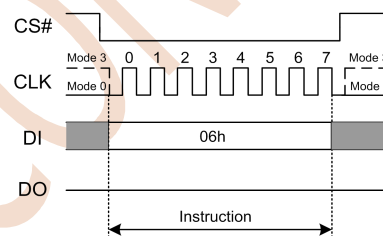

Figure 7.2 Write Enable Instruction
The Write Enable instruction (Figure 7.2) sets the Write Enable Latch (WEL) bit in the Status Register to a 1. The WEL bit must be set prior to every Page Program, Sector Erase, Block Erase, Chip Erase and Write Status Register instruction. The Write Enable instruction is entered by driving CS# low, shifting the instruction code “06h” into the Data Input (DI) pin on the rising edge of CLK, and then driving CS# high.